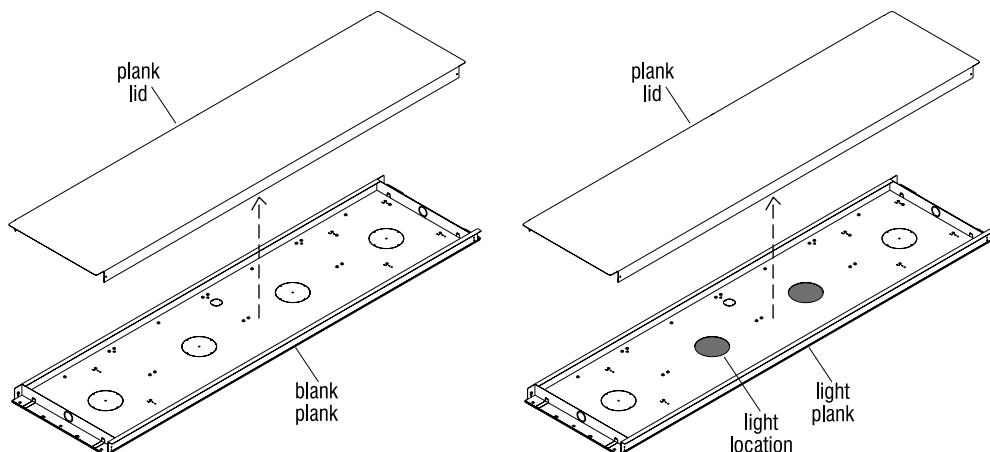

Figure 2
1. Locate and identify the different blank and light ceiling planks for the room being installed. Carefully remove the packing material, set each unit on a soft, protective surface with the ceiling side face-down and lift off each plank's lid. No hardware attaches the lid to the plank unit. Set the lids aside at a safe storage location as the lids will be re-installed at the end of the assembly process (Figure 2).